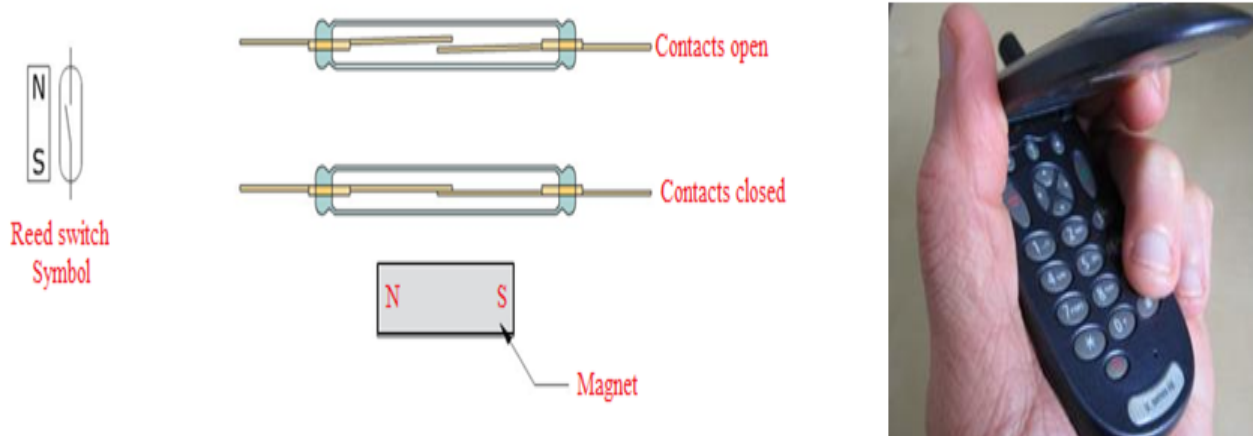

Fig.5.14 (a) Reed switch & Reed switch usage diagram
- A graphical illustration of a reed switch, the circuit symbol and a simple diagram representing the construction of the switch are shown in fig.5.14.